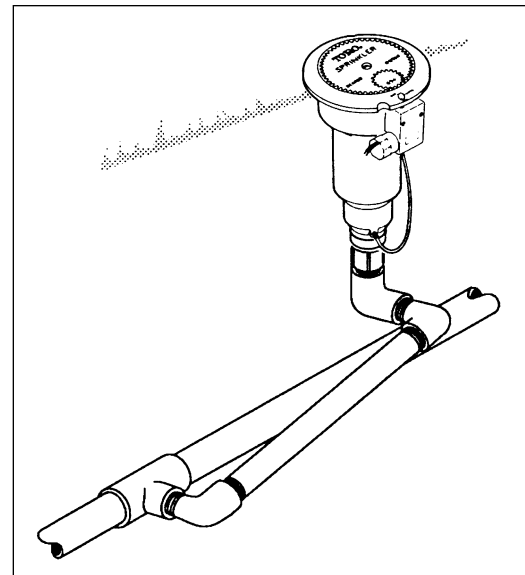

Figure 1
1. Construct triple swing joints for each sprinkler as shown in Figure 1. Use PVC or ABS pipe nipple for sprinkler connection.